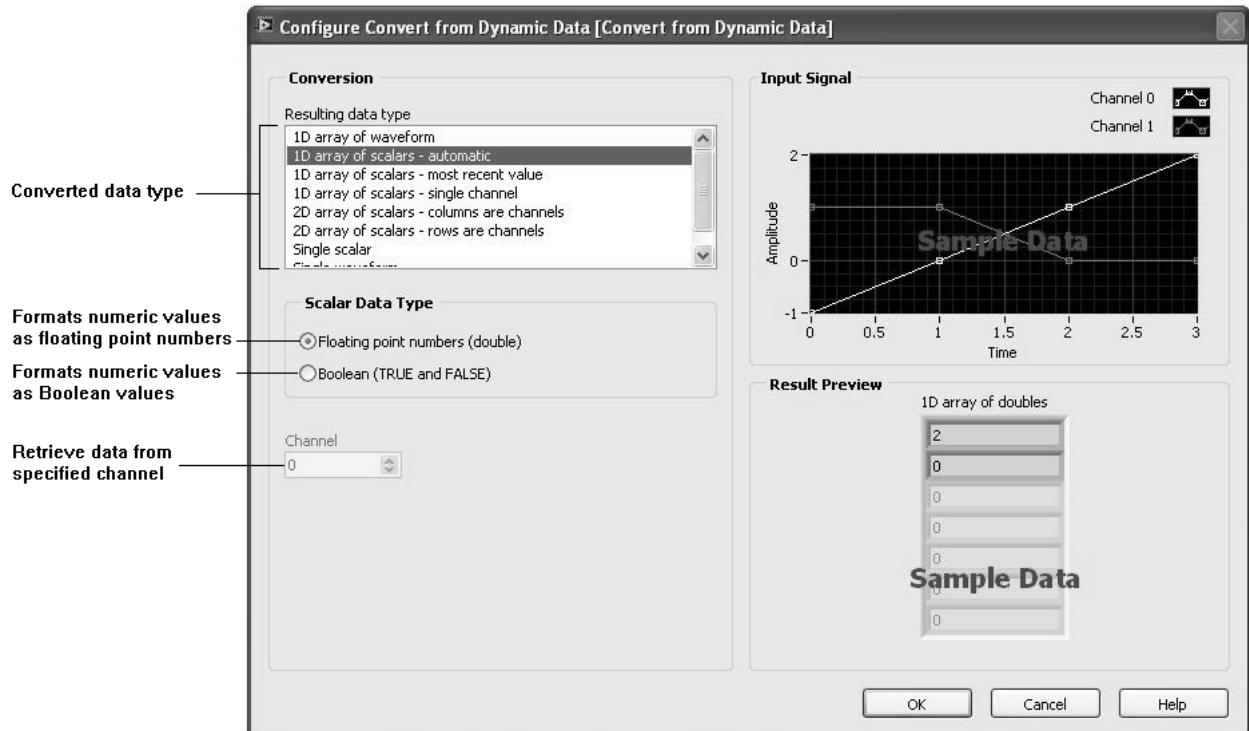

Figure 1.4.16 Convert from Dynamic Data Express VI
When the Express VI is placed in the block diagram, a configuration window appears with conversion options as shown in Fig. 1.4.16. You may retrieve this window to make changes at a later time by double-clicking on the Express VI. The conversion will depend on the type of inputted data. For example, if the DAQ Assistant has been configured to take one sample (on demand) from one channel, then “Single scalar” would be selected as the converted data type. You may also retrieve data from a specified channel with some of the available options. “Scalar Data Type” options format values of dynamic data to either floating point numbers or Boolean values.
32. Configure the Convert from Dynamic Data Express VI as follows. Keep the default option “1-D array of scalars-automatic” as the resulting data type in the conversion. Keep the default option “Floating point numbers (double)” since the data samples are numerical values. Your configuration window should appear as shown in Fig. 1.4.16.